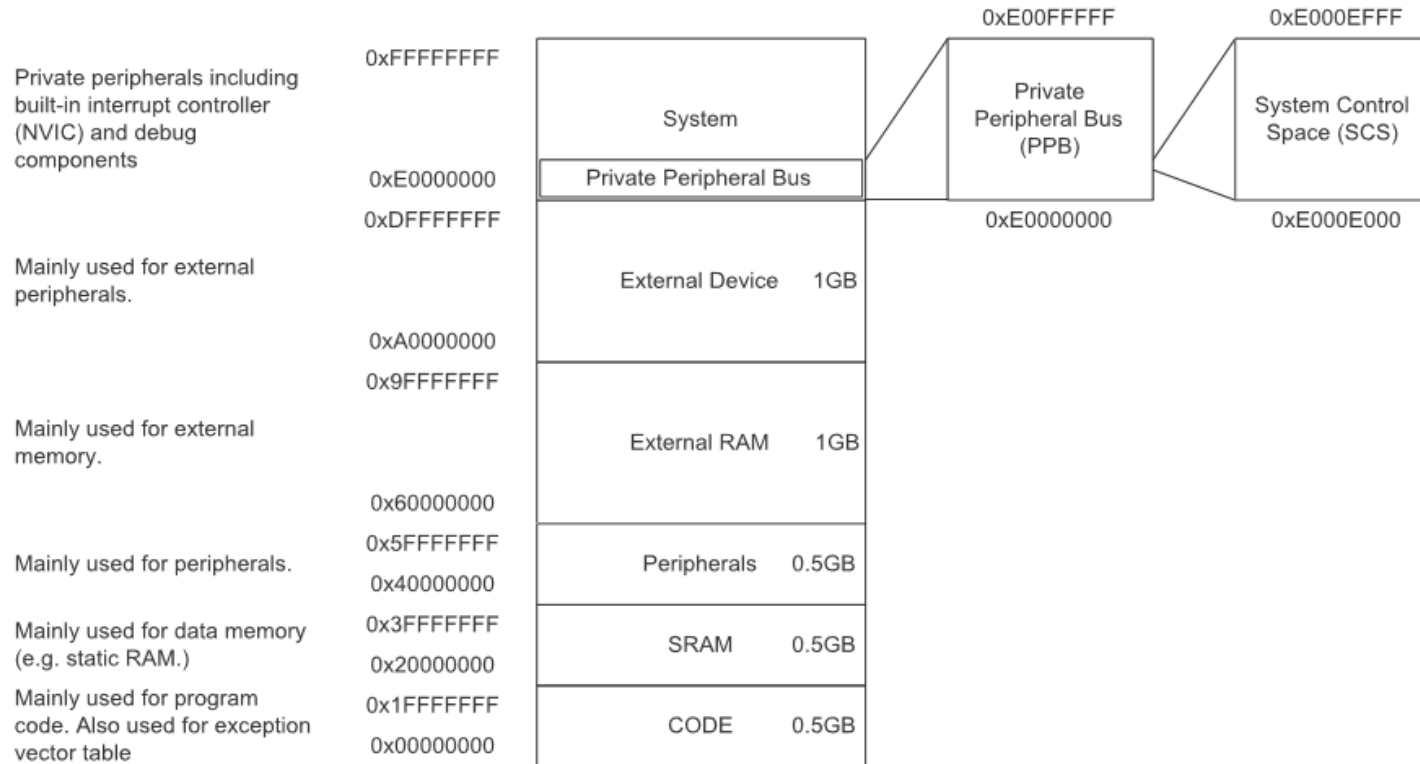

Figure 3.8:
- The Cortex-M0 processor has 4 GB of memory address space (Figure 3.8).
- These registers are memory mapped, with the addresses located within the System Control Space (SCS) as illustrated in Figure 3.8.